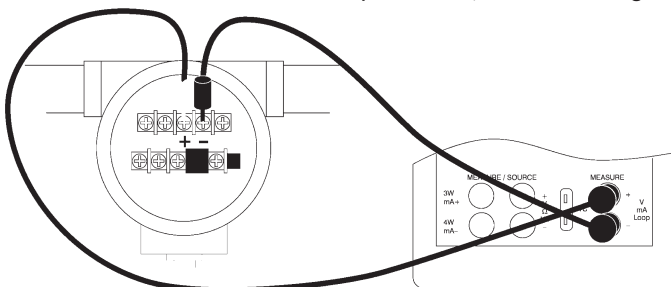

Figure 17. Connection Using Current Loop
2. Connect the calibrator to transmitter current loop terminals, as shown in Figure 17.